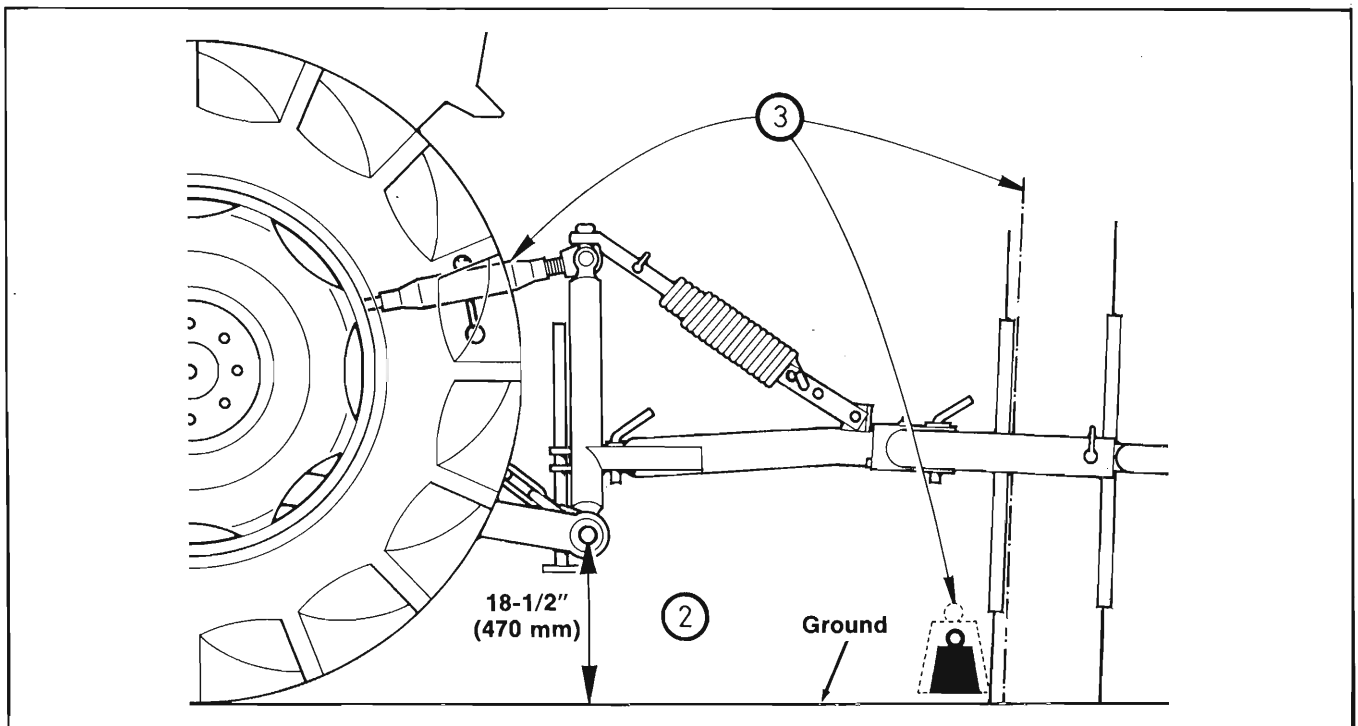

Fig. 33
should be adjusted with the Toplink (3 of Fig. 33) so that the Hitch Pins are approximately 18-1/2" (470 mm) above the ground. **Always drive in the direction which enables the Finger Wheels to work the bottom of the crop first.** If necessary, adjust the Rake width, as appropriate, to either hole position (C) or position (A).